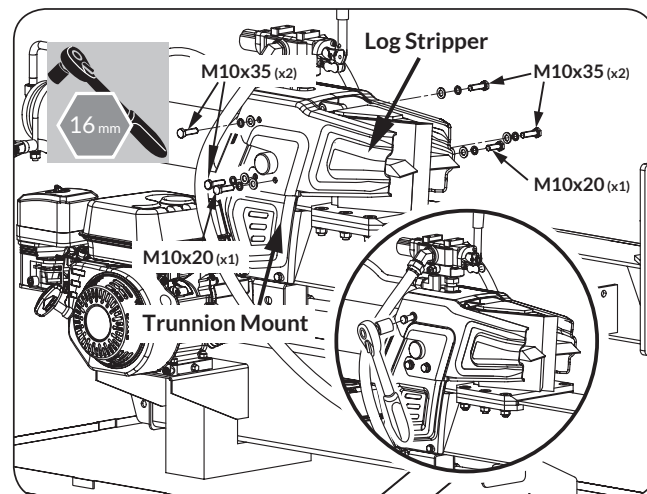

Figure 5b
2. Install the log stripper by tightening the M10x35 and M10x20 bolts, spring washers, and flat washers. (See **Figure 5b**)